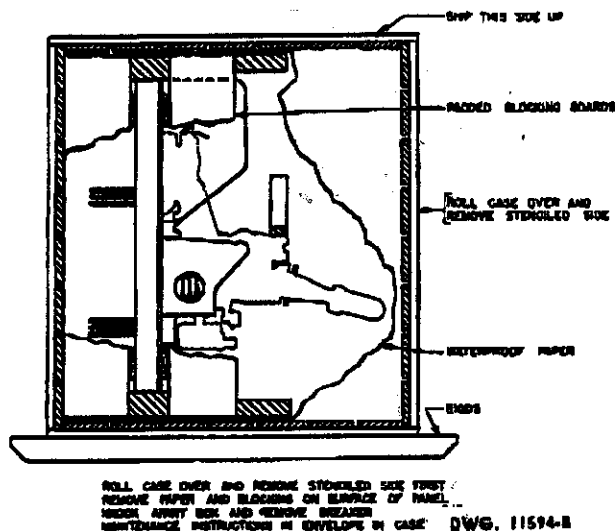
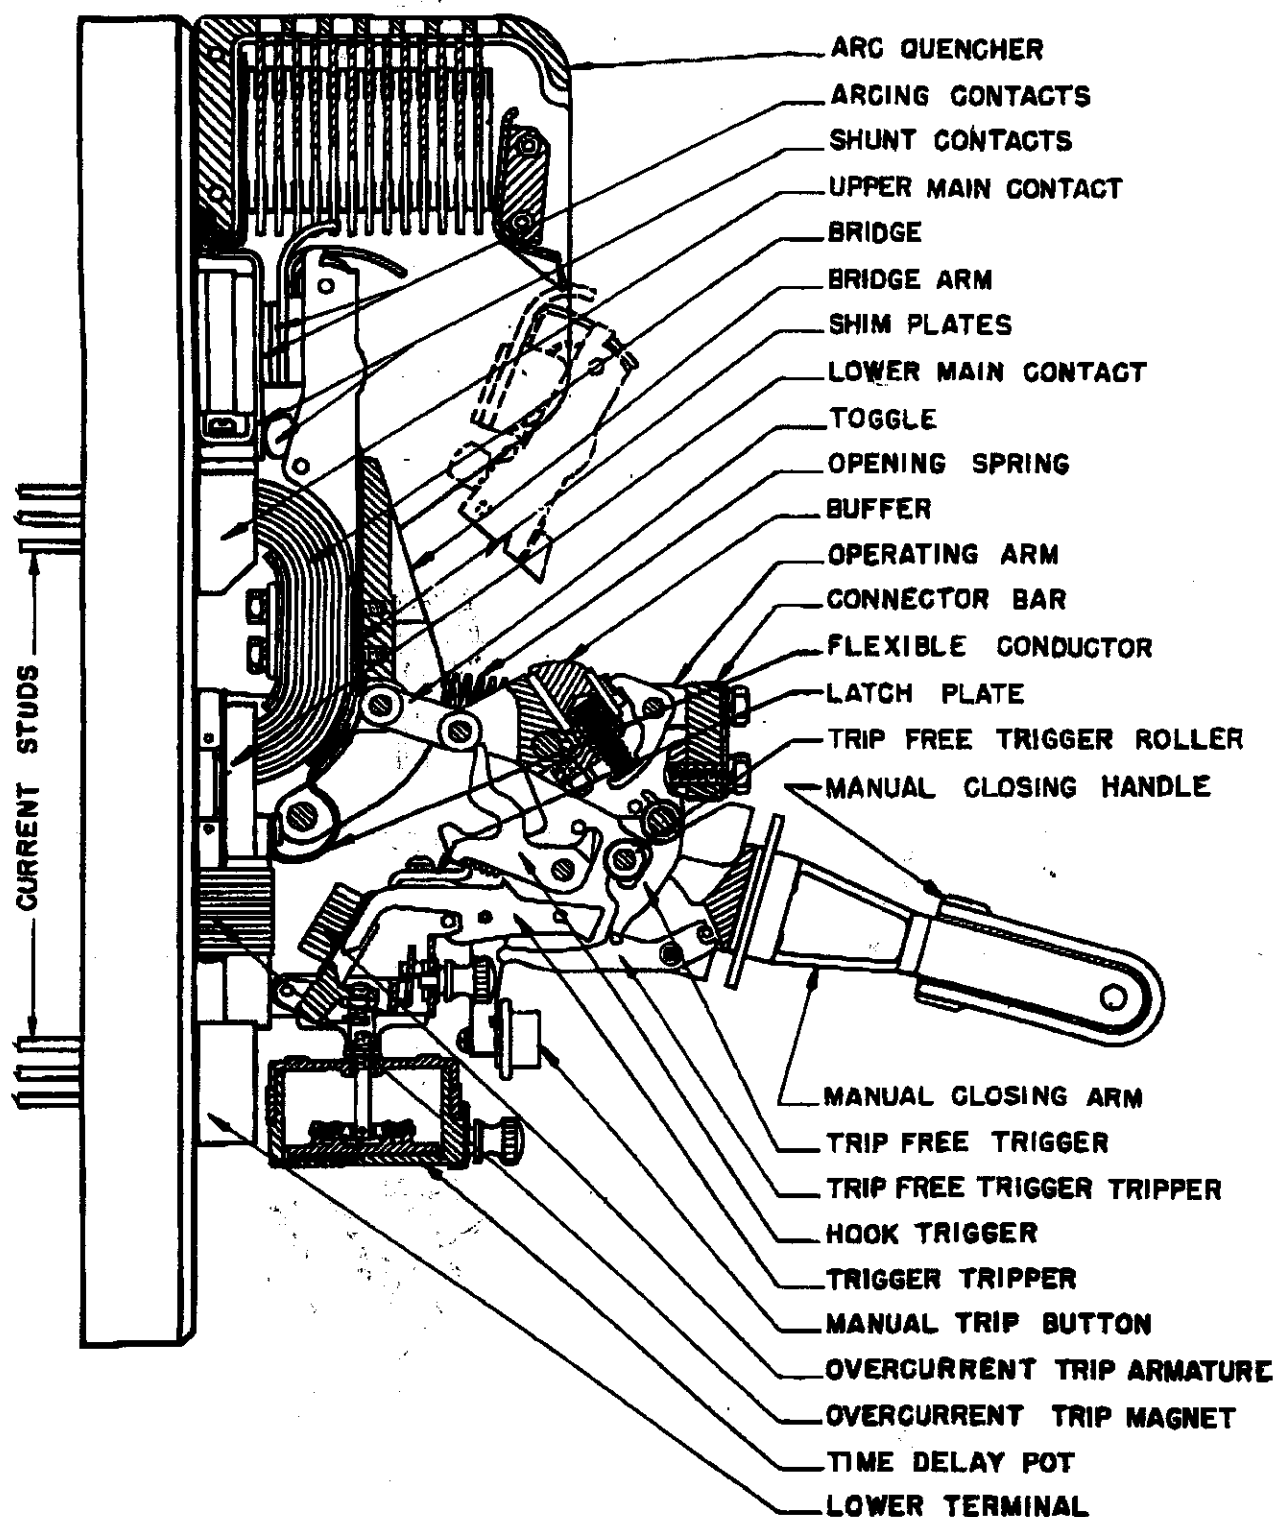

FIG. 3—OPEN TYPE LX CIRCUIT BREAKER IN PACKING CASE. DWG.
FIG. 4—TYPE LX CIRCUIT BREAKER. ARC QUENCHER, CONTACTS, MECHANISM AND OVERCURRENT TRIP DEVICE
U-RE-LITES (Panel mounted). The packing case for a panel mounted U-RE-LITE is shown in Figure 3. Felt and corrugated paper act as cushions and protect the enameled surfaces. The breakers are shipped with their panels vertical. Turn stenciled side of the case up before unpacking. To remove the circuit breaker from the packing case, remove the stenciled side, attach a rope sling under the handle and lift the breaker from the case. **CAUTION:** Be sure that the rope sling rests up against the handle and does not interfere with the protruding closing mechanism trigger.
**OPEN TYPE CIRCUIT BREAKER:** Open type circuit breakers are packed in the case shown in section (Figure 3). The breakers are shipped with their panels vertical. Turn stenciled side of case up before unpacking. To remove the circuit breaker from the packing case, remove the stenciled side, attach a rope sling to the connector bar (Figure 4) and lift the breaker from its packing case.
(Refer to Figure 4.) It is required with a circuit breaker that all poles close and open simultaneously. Therefore the poles connected by a connector bar insure this simultaneous operation.